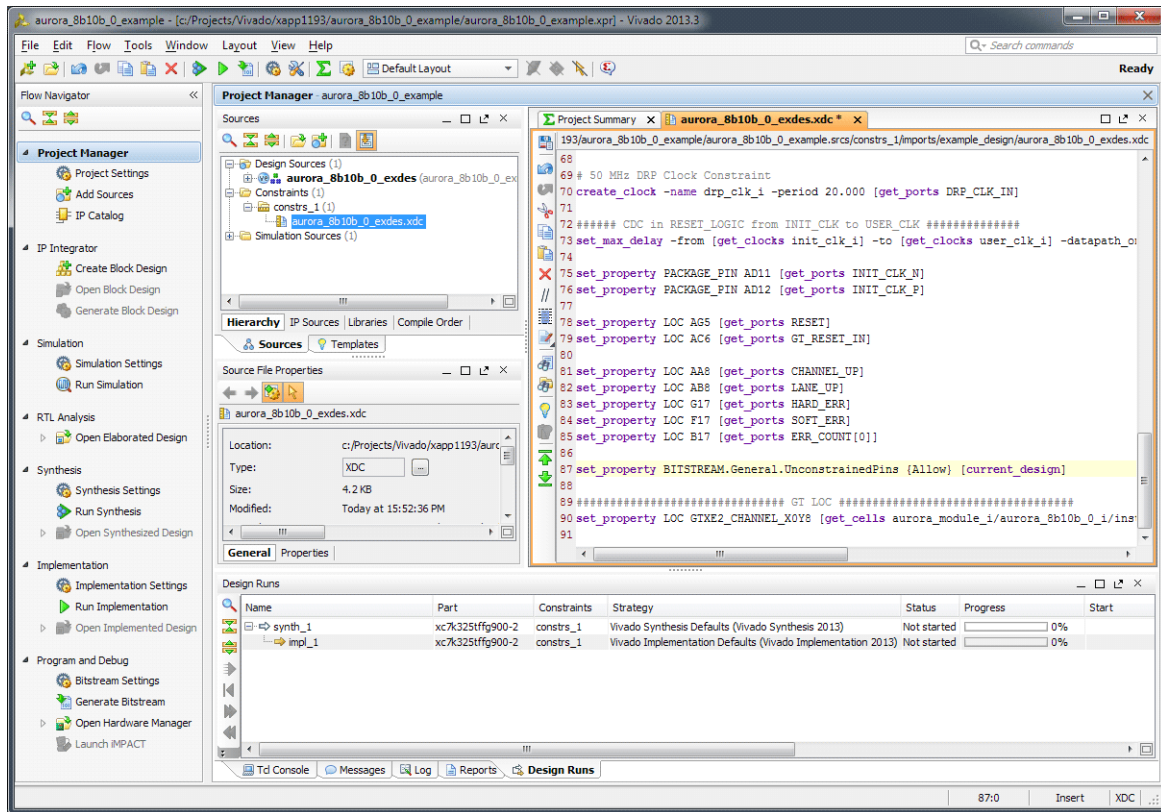

Figure 7: Aurora 8B10B Single Lane Constraints File
5. In the newly-opened Vivado IDE window, expand the Constraints entry in the Sources panel of the Project Manager section. Right-click the constraints file (`aurora_8b10b_0_exdes.xdc`) and select **Open file** (Figure 7).
- This example contains unconstrained pins. To permit bitstream file generation, add this line to the end of the constraints file (Figure 7):